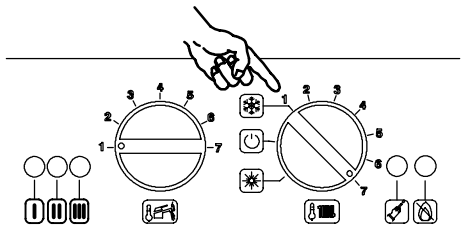

Fig. 7.5
- 3 Turn the boiler ON positioning the control selectors 8 in the positions as shown in as in Fig. 7.5 and ensure that the timer selector switch and room thermostat, if fitted, are set to "heat demand".
boiler and reignite it by turning the function selector 8 to the OFF position and then back to that indicated in Fig. 7.5